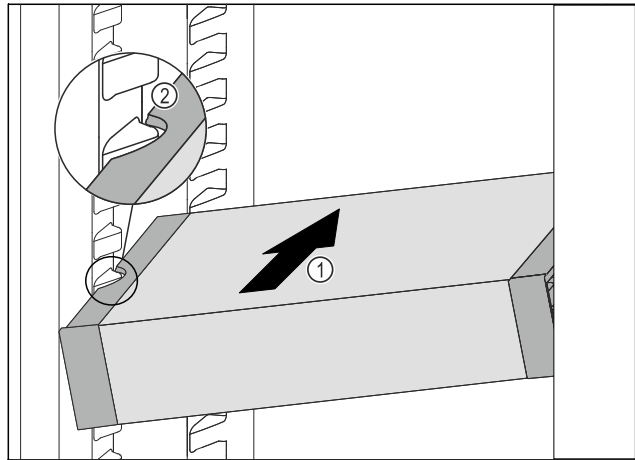

Fig. 63
- ▶ Insert the VarioSafe into the refrigerator compartment at an angle Fig. 63 (1) until the recesses in the side Fig. 63 (2) of the VarioSafe are at the level of the support rib in the refrigerator compartment.